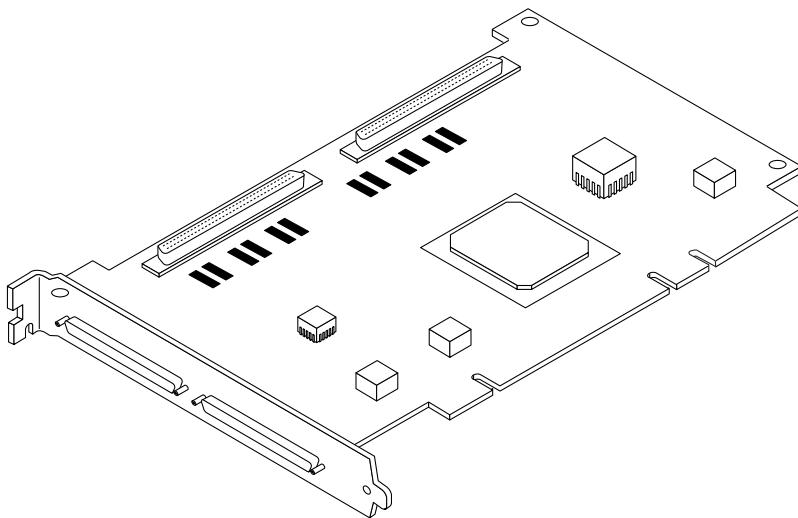

FIGURE 1-1 Sun StorEdge PCI/PCI-X Dual Ultra320 SCSI Host Adapter
- Sun StorEdge PCI/PCI-X Dual Ultra320 SCSI host adapter (Figure 1-1)
In this example, the first SCSI port (`scsi@2`) has one disk drive connected (`Target 0`). The second SCSI port (`scsi@2,1`) also has one disk drive connected (`Target 0`). In the illustration of the host adapter in Figure 1-1, the first SCSI port is labeled as Channel A; the second SCSI port as Channel B.